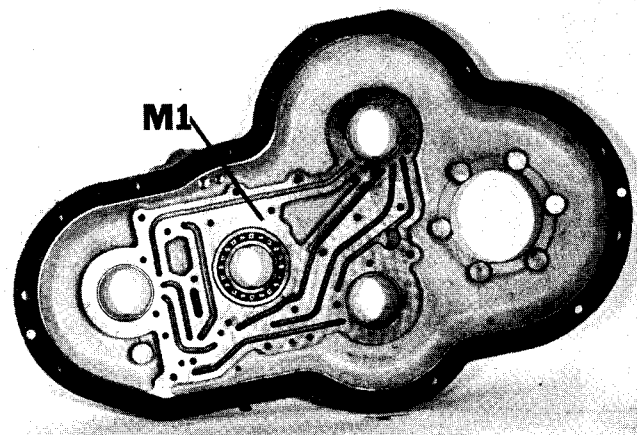

Figure 10
18. Check cored passages on cover (M-1) for cleanliness and damage (Figure 10).
19. Check plate (M-7) for damage and unevenness. (Figure 10)